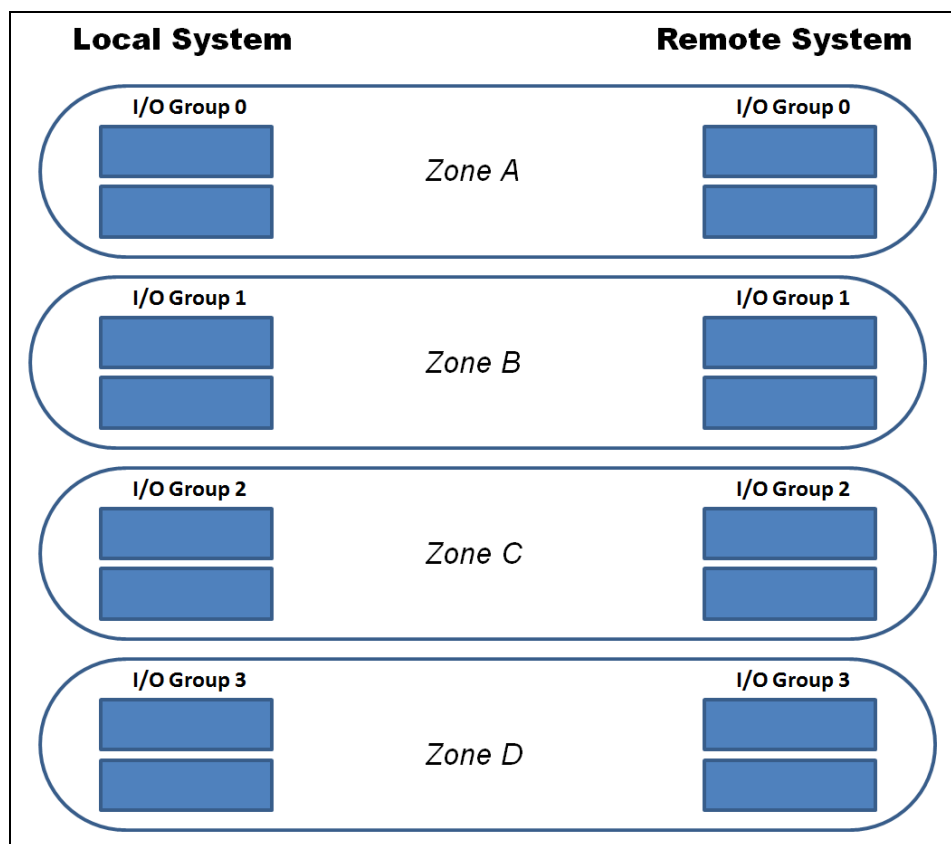

Figure 6-25 Zoning scheme for >80 ms remote copy partnerships
- For remote copy configurations where the round-trip latency between systems is more than 80 milliseconds, apply SAN zoning to provide separate intrasystem zones for each local-remote I/O group pair that is used for replication, as shown in Figure 6-25.